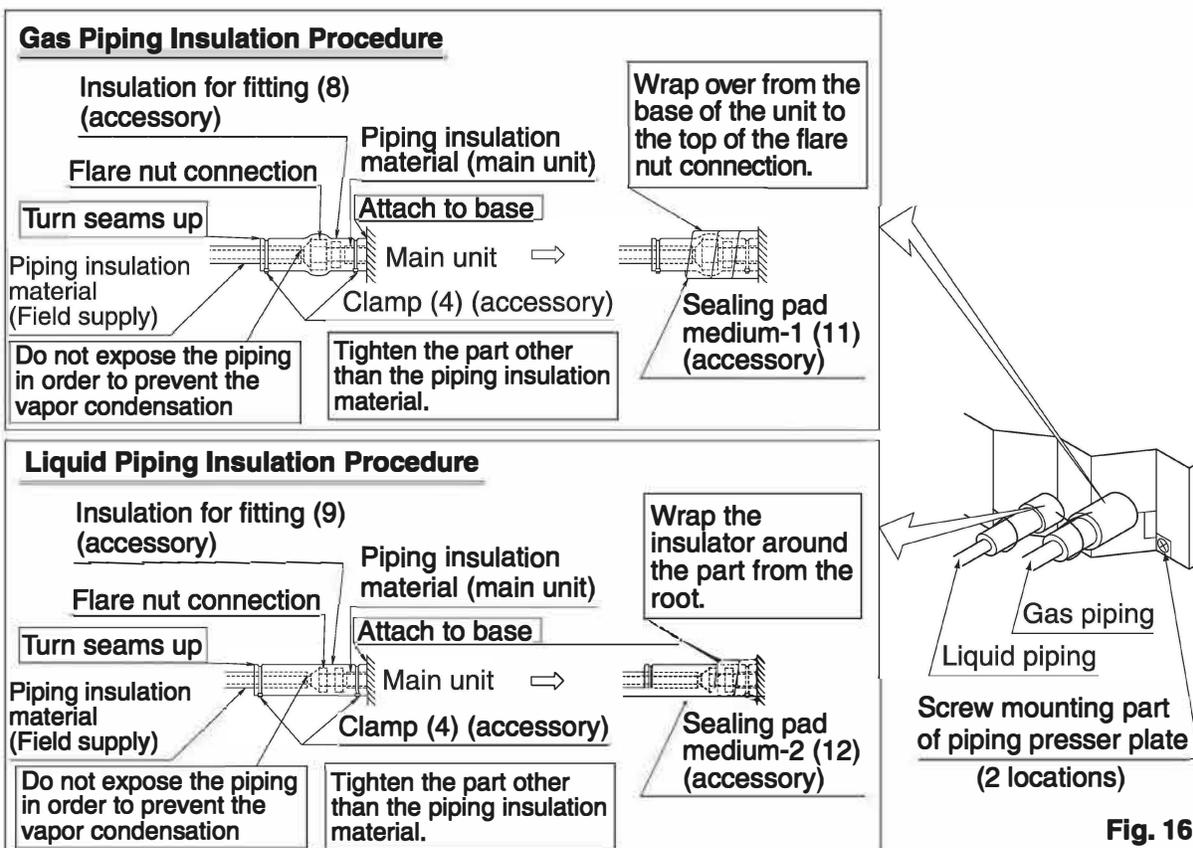
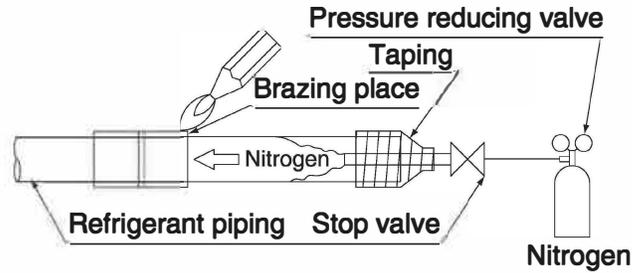

Fig. 16
Fig. 17
- After leak test, referring to **Fig. 16**, insulate both the gas and liquid piping connection with the attached joint insulating for fitting (8) and (9) to prevent the pipings from getting exposed.
- Before brazing refrigerant piping, have nitrogen flow through the refrigerant piping and substitute air with nitrogen (NOTE 1) (Refer to Fig. 17). Then, carry out brazing (NOTE 2). After all the brazing works are finished, carry out flare connection with the indoor unit. (Refer to Fig. 16)